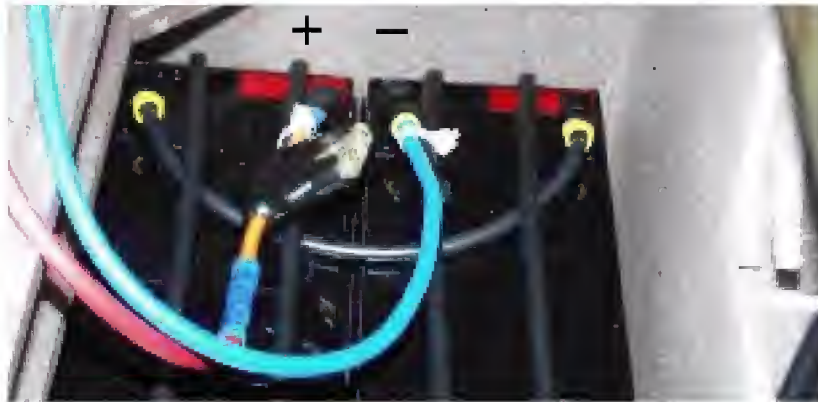

Fig. 56: Connecting and securing battery supply conductors
- When connecting the battery supply conductors, make sure the polarity is correct (Fig. 56: "Connecting and securing battery supply conductors")